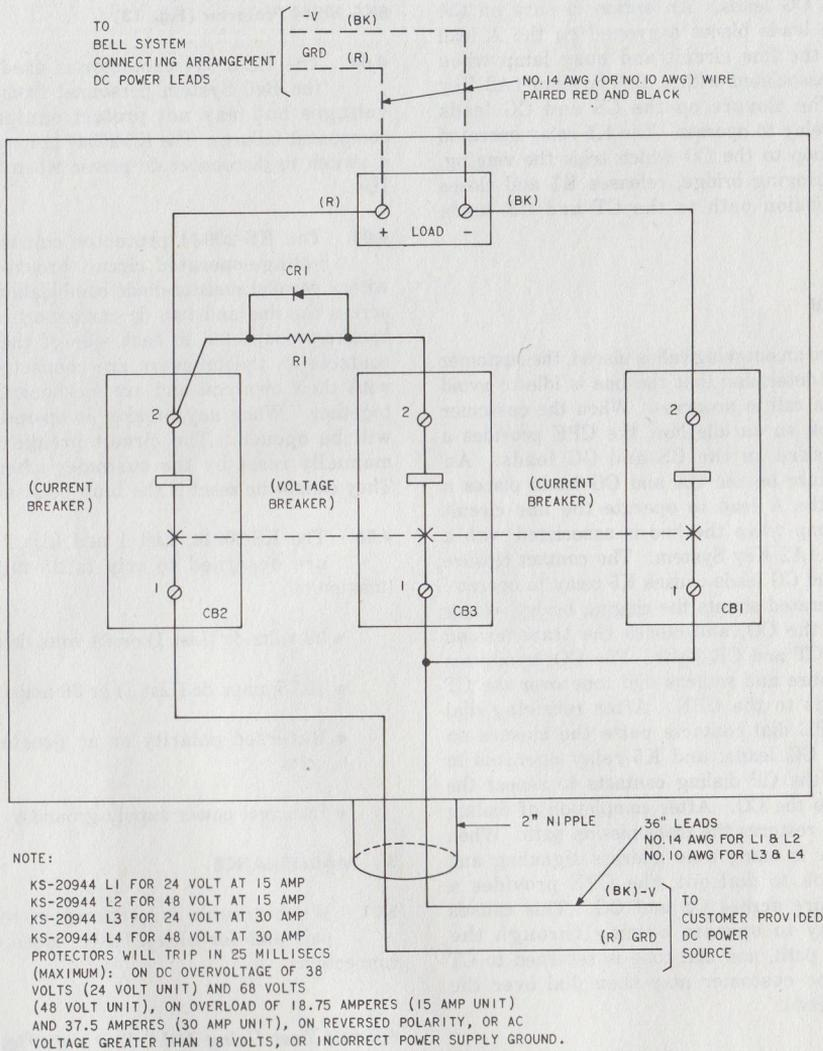

Fig. 13—Schematic—KS-20944 Protector
#### KS-20944 Protector (Fig. 13)
**3.27** Connect as shown in Fig. 13 following local wiring instructions. The customer must
### KS-20944 Protector (Fig. 13)
- 6.07** For connection information using the KS-20944 protector, refer to Fig. 13.♦